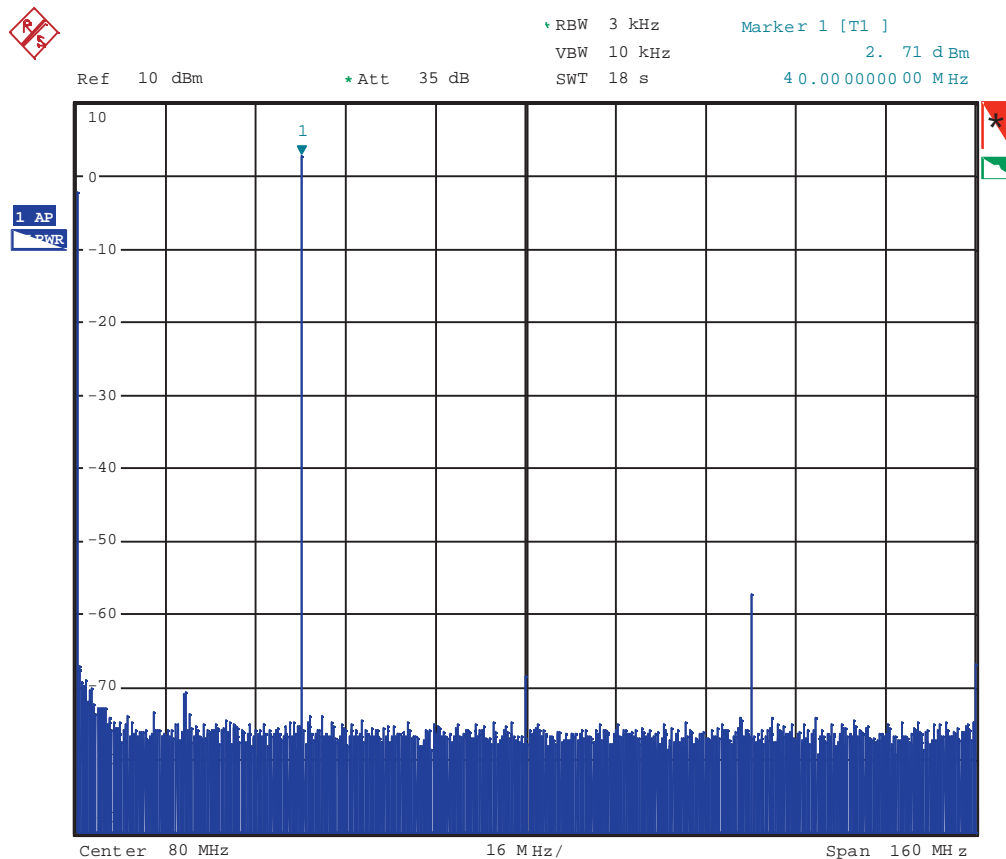

Figure 4. Spectrum with CLK2 = 320 MHz, X4 Interpolation, Single Sideband Mode and NCO Frequency = 536870912
5. Reduce the CLK2 frequency to less than 320MHz. Enable the NCO and change the NCO DDS to 536870912. Doing this will generate a tone at $F_{dac}/8$. For CLK2 = 320 MHz, the tone corresponds to 40 MHz. The output spectrum should be similar to the one in Figure 4.